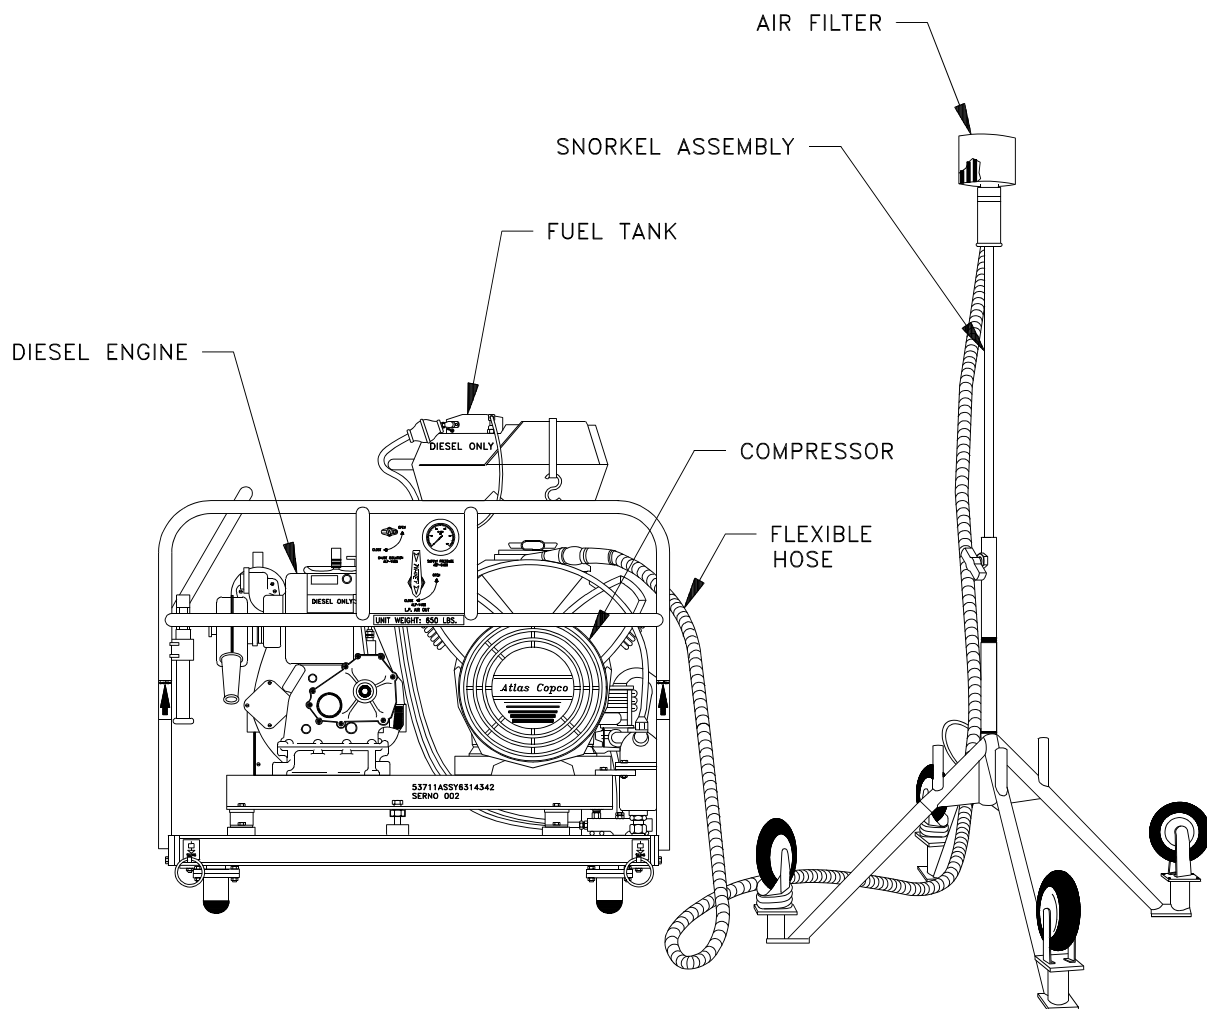

Figure 3-5. Diesel-Compressor Assembly with Snorkel Assembly
3.3.1 DIESEL-COMPRESSOR ASSEMBLY. The diesel-compressor assembly (Figure 3-5) consists of a diesel engine and a compressor. The snorkel assembly (Figure 3-5) is a primary subassembly of the diesel-compressor assembly. These assemblies function jointly to produce primary LP air when using the LWDS in Configuration 1.
3.3.1.3 Snorkel Assembly. The snorkel assembly (Figure 3-5) consists of a flexible hose, an intake assembly containing an air filter system, and a telescoping frame consisting of a stand and leg weldments. The snorkel assembly supplies particle-free air to the compressor intake. It may be placed at a remote site not more than 20 feet from the diesel-compressor assembly, taking into account 4-1/2 to 6 feet for the height of the stand. The intake assembly can be removed from its frame and secured to a taller support, if desired.